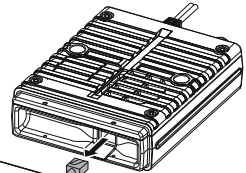

Figure 2
2. Disconnect the 8-pin modular plug from the Transceiver (Figure 2).